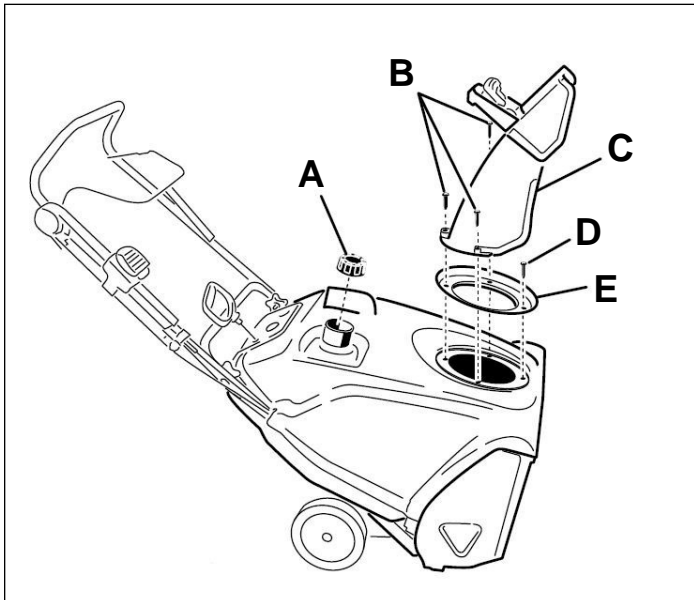

Fig. 017
3. Remove the discharge chute, the discharge chute handle, and the chute seal by removing the 3 large screws and one small screw (Fig. 017).